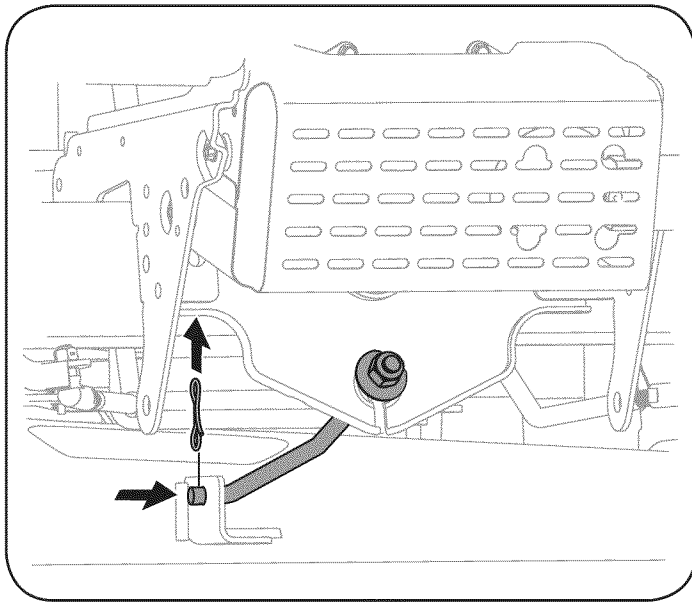

Figure 19
- Remove the bow-tie cotter pin securing the deck stabilizer rod to the deck. Slide the deck lift rod from the mounting bracket on the deck as seen in Fig. 19.